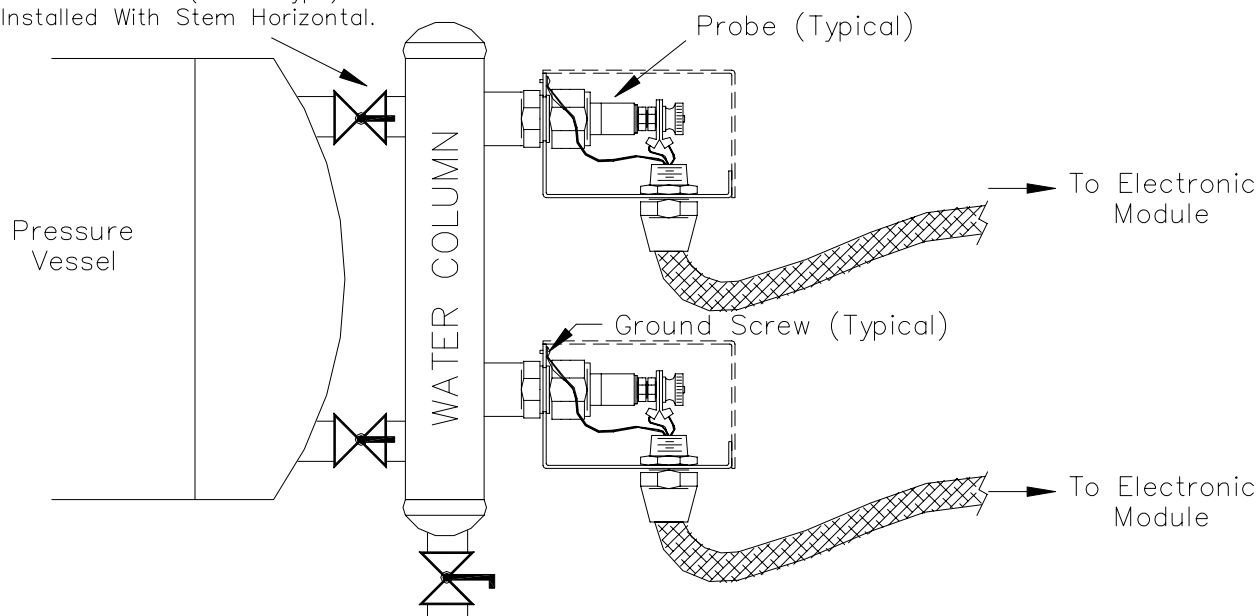

Figure 1 - Typical Type "A" Probe Connector
- Figure 1 - Typical Type "A" Probe Connector